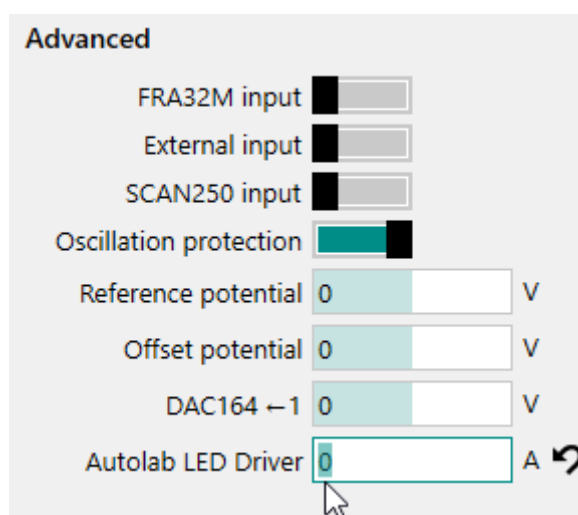

Figure 75 – Setting the LED Driver current to 0 A (DAC voltage = 0 V)
- **Light off:** to switch the light source off, set LED Driver current to 0 A (see Figure 75).